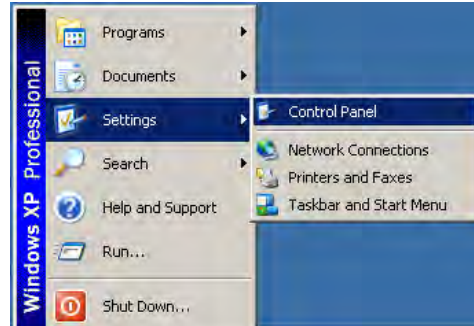

Figure 1-115. Select Control Panel
1. On the Windows taskbar, select **Start**, **Settings**, and **Control Panel** to open the Control Panel (Figure 1-115).